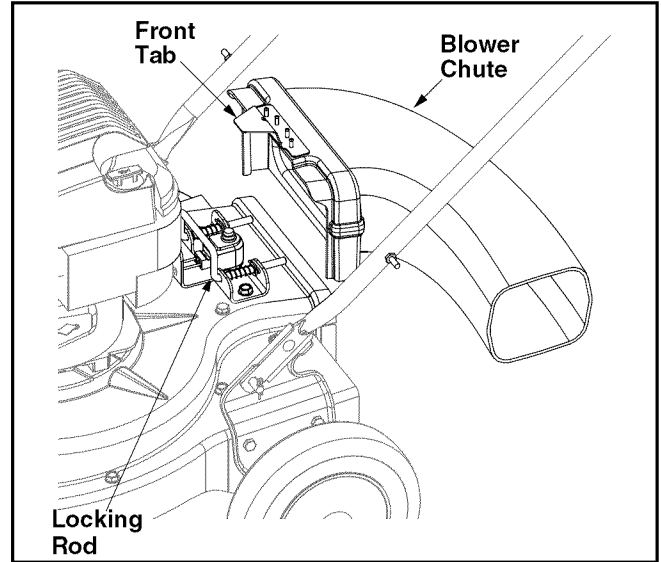

Figure 5
- Slip blower chute over rim of the discharge opening and release locking rod to secure chute in place. Make sure safety switch button is fully depressed by the front tab on the blower chute. See Figure 5.
- Grasp blower chute with one hand and slide locking rod of the mounting bracket with other hand toward the engine. Use end of the mounting bracket as leverage when sliding the locking rod. See Figure 5.
- Grasp blower chute with one hand and with the other, pull the lock rod on the mounting bracket toward engine to release. Refer to Figure 5.